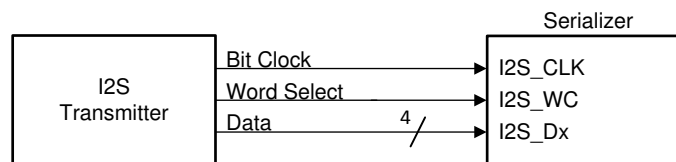

图 15. I2S Connection Diagram
The DS90UB949A-Q1 serializer features six I2S input pins that, when paired with a compatible deserializer, supports 7.1 high-definition (HD), surround sound audio applications. The bit clock (I2S_CLK) supports frequencies between 1 MHz and the lesser of IN_CLK/2 or 13 MHz. Four I2S data inputs transport two channels of I2S-formatted digital audio each, with each channel delineated by the word select (I2S_WC) input. Refer to Figure 15 and Figure 16 for I2S connection diagram and timing information.